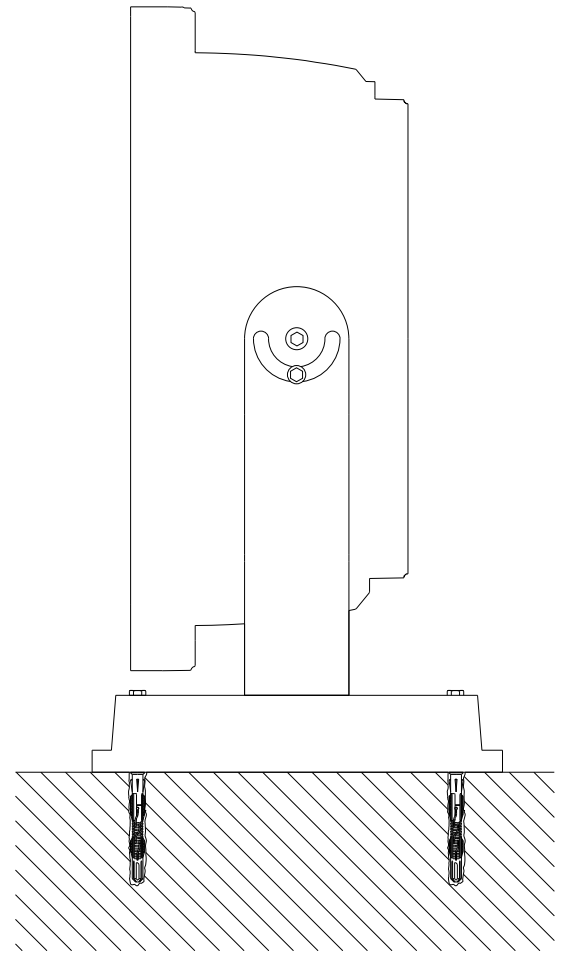

Fig. 2
- Mount the bracket according Fig.2. Use dowels and screws. (Fig. 2)